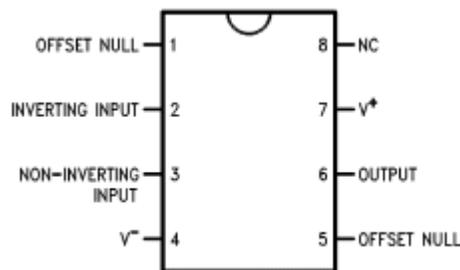

Figure 1: Pinout of LM741 package (Source: National Semiconductor LM741 datasheet)
2. We will be using the LM741 op amp. The pinout of the LM741 package is shown in Figure 1.